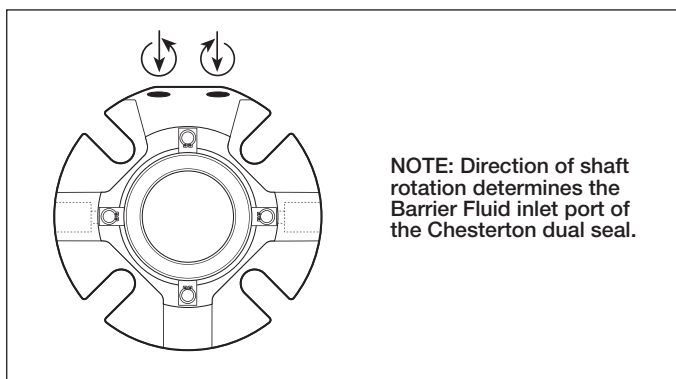

Figure 1 – S20 Piping Inlet for Specific Shaft Rotation
2. Determine the inlet and outlet barrier ports on the Chesterton dual seal. **Reference Figure 1.**